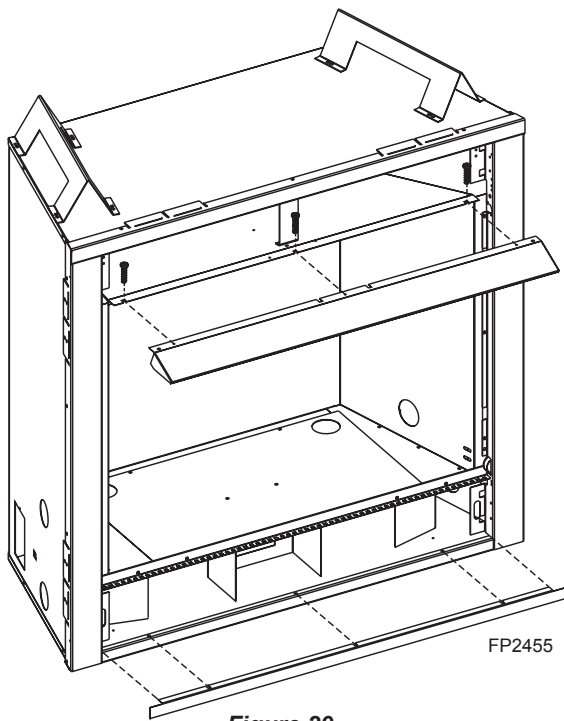

Figure 29
2. Remove canopy by removing screws and pulling canopy away from unit. *Figure 29*
3. Set bottom trim kit piece in place on bottom of face. Bottom piece will be held in place by the side pieces. *Figure 29*